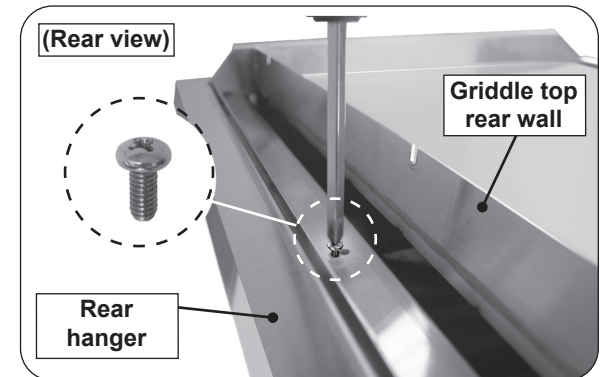

Fig. 31-3 Secure griddle top
2. Secure the griddle top by fastening the provided screw into the screw hole located on the rear of the griddle top (see Fig. 31-3).